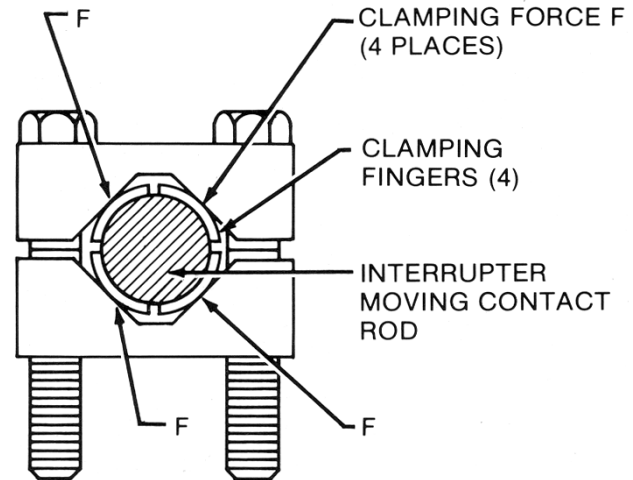

Figure 18. Upper interrupter clamp
9. Position the upper and lower clamps just below the slight shoulder on the clamping fingers of the current exchanges so that the clamping force will be applied to the center of each finger and the gaps between the clamp halves are approximately equal. (See Figures 18 and 19.)